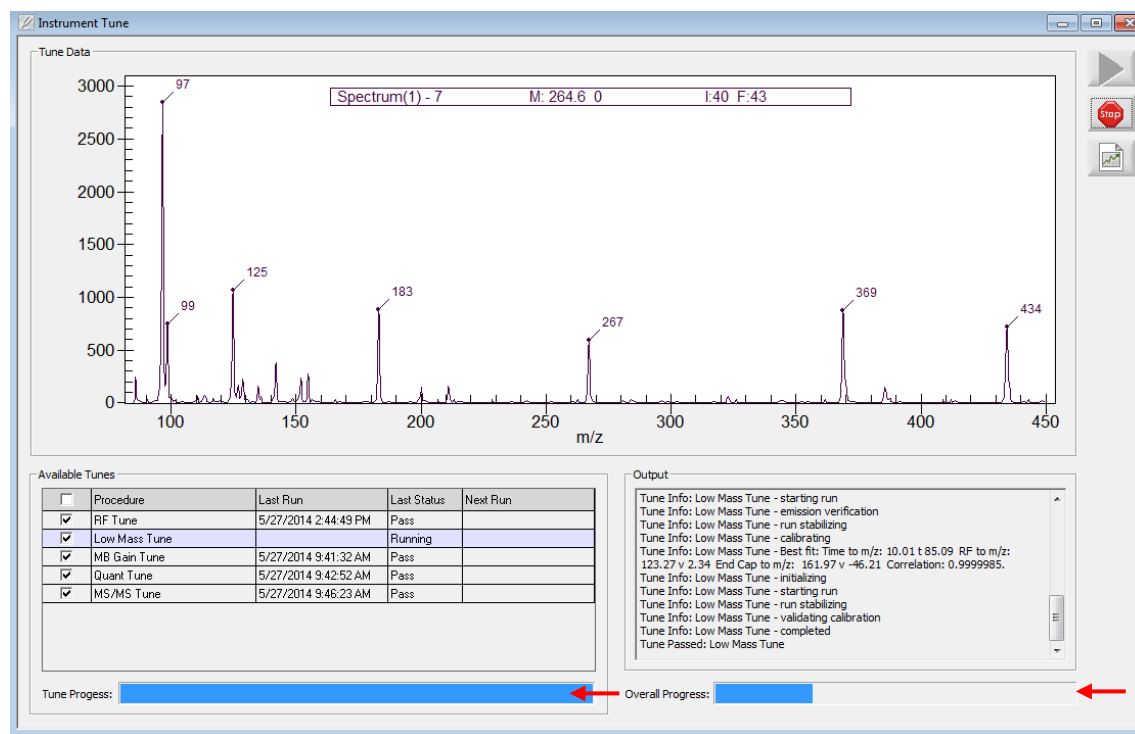

Figure 1.14 – Tune progress window
14. The five-step tune is complete once the tune status and overall progress bars have reached 100% (Figure 1.14).